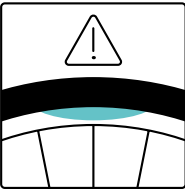

Fig. 7
**Caution:** Make sure that the tube is not pinched (Fig. 7).